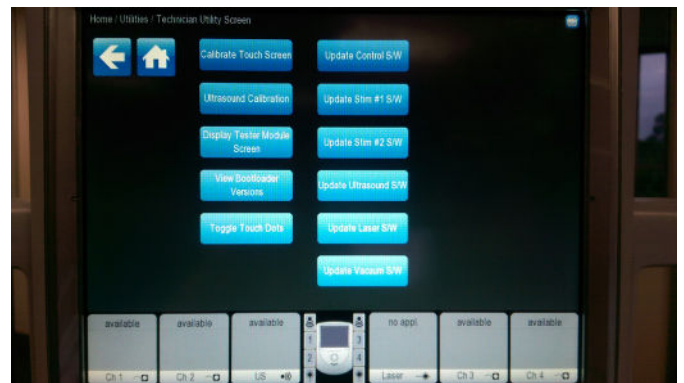

FIGURE 2
3. Press the Ultrasound Calibration Button. See Figure 2.